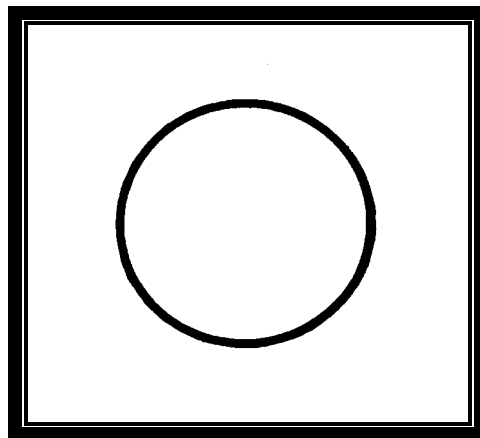

Figure 8
(3) ***Shot-group Size.*** The 4 centimeter circle that is centered on the target is not where the impact of the bullets is impacting (remember you are centering the aiming light beam on this). So this circle needs to be centered over the unique point (intersection of line 9 right and line 3 down). Firers are not as precise at night. Research has shown that the 4 centimeter circle is not a realistic standard for night firing, given the reduced visual acuity at night through goggles and the difficulties in aiming consistently. A 5.5 centimeter circle is better. See Figure 8. (See Chapter 4 of the 82d Abn Div OTN Individual Training Package for a full-sized reproducible copy.) This circle can either be transferred directly onto the target, centered over the “unique impact point,” or a transparent training aid with a black 5.5 centimeter circle can be used.